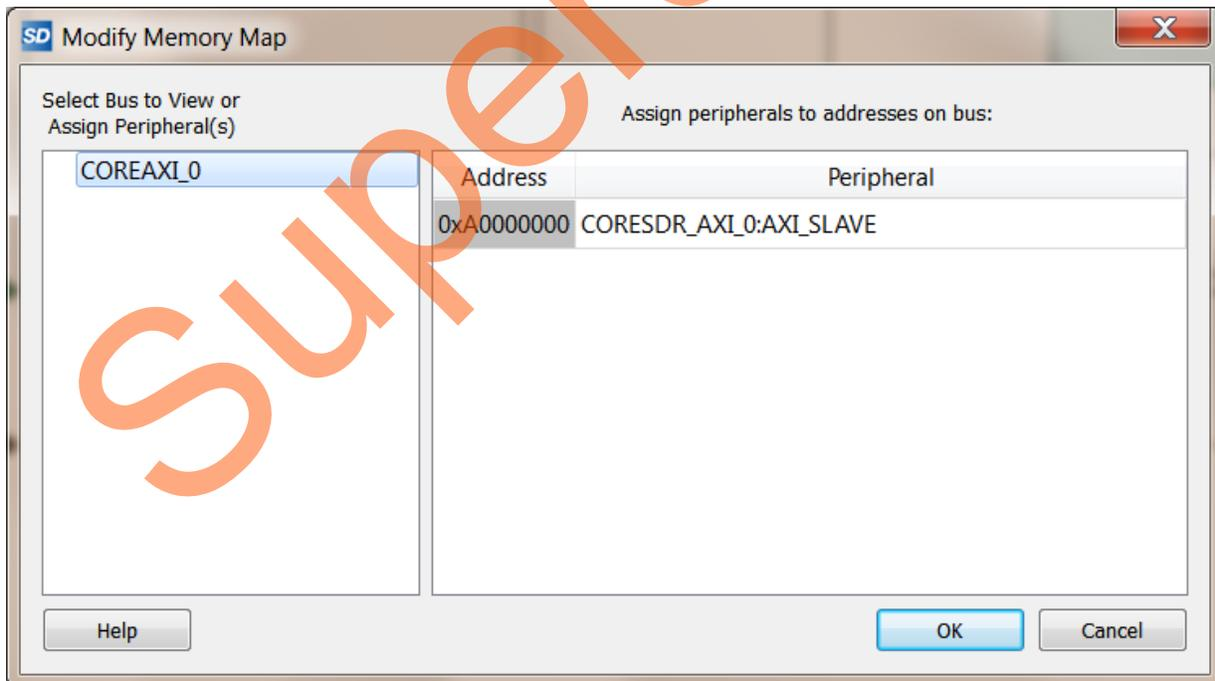

Figure 27. CORESDR_AXI_0 Memory Address
- After generation, you can see the Memory Map for the CORESDR_AXI_0 component. Right-click the **Access_EXT_SDRAM** tab and select **Modify Memory Map**. Figure 27 shows the resultant memory map. The starting address of the MDDR Space 0 is 0xA0000000 in the Cortex-M3 processor address space.